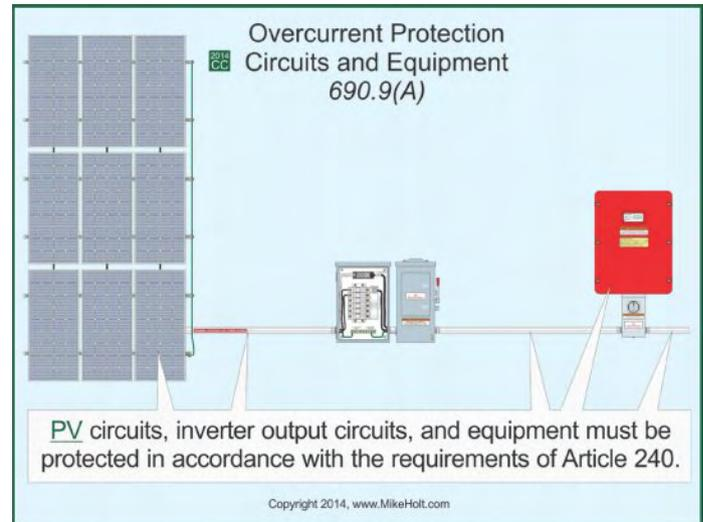

Figure 690-49
(A) Circuits and Equipment. PV source circuits, PV output circuits, inverter output circuits, and storage battery circuits and equipment must have overcurrent protection in accordance with Article 240. Figure 690-49